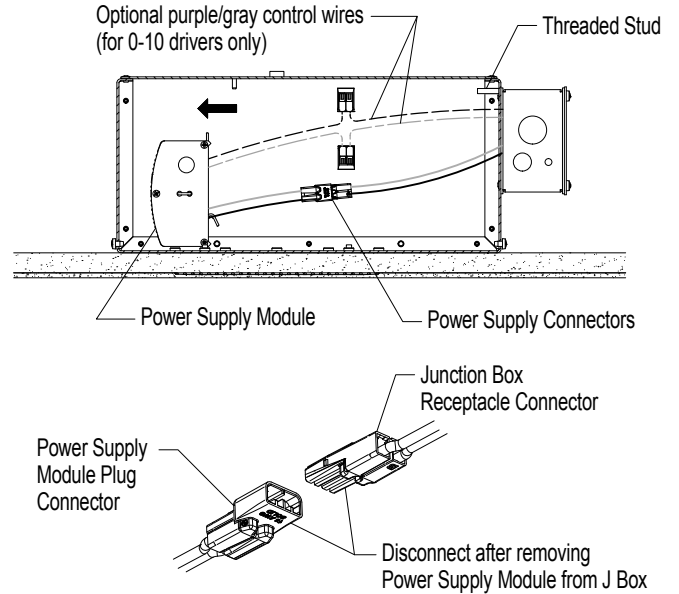

FIG 5.2 Remove Power Supply Module & disconnect wires
Step 3 Pull Power Supply Module away from threaded stud while pulling wires & Power Connectors out of the Junction Box-FIG 5.2.
Step 4 Disconnect Power Supply Connectors. For models with 0-10 drivers, also disconnect purple & gray wires-FIG 5.2.